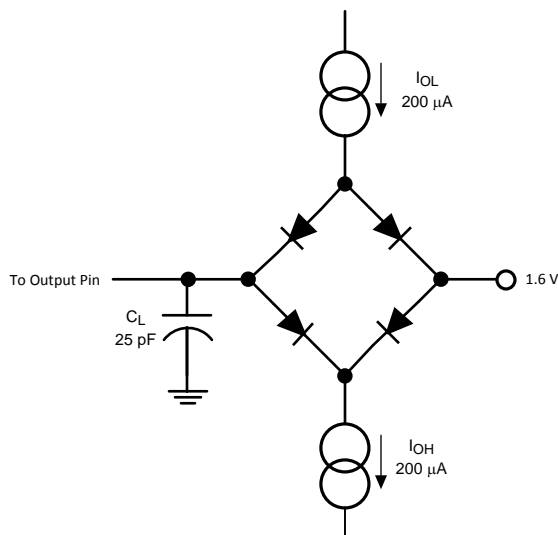

Figure 2. Timing Test Circuit
- (1) Measured with the timing test circuit shown in Figure 2 and defined as the time taken by the output signal to cross 1.0V.
- (2) Measured with the timing test circuit shown in Figure 2 and defined as the time taken by the output signal to cross 1.0V or 2.0V.
- (3)  $t_{DIS}$  is derived from the time taken by the output to change by 0.5V with the timing test circuit shown in Figure 2. The measured number is then adjusted to remove the effects of charging or discharging the load capacitance. This means that  $t_{DIS}$  is the true bus relinquish time, independent of the bus loading.